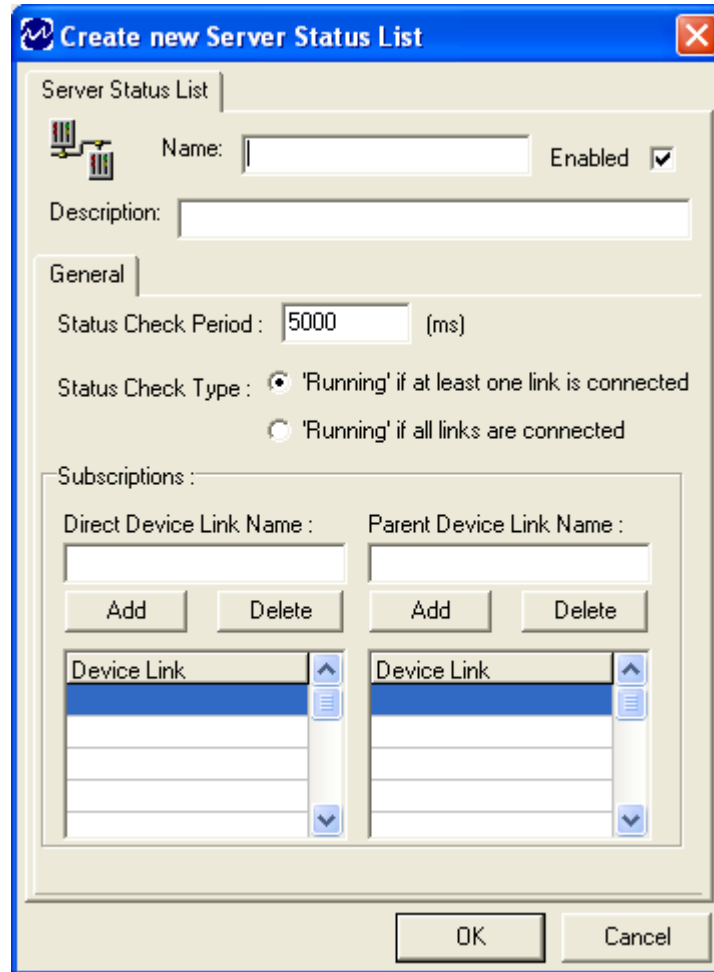

Figure 23 - Create New Server Status List Window
The **Create New Server Status List** window (Figure 23) displays the settings available for configuring a Server Status List object.
5. The **Create New** window appears (Figure 23).